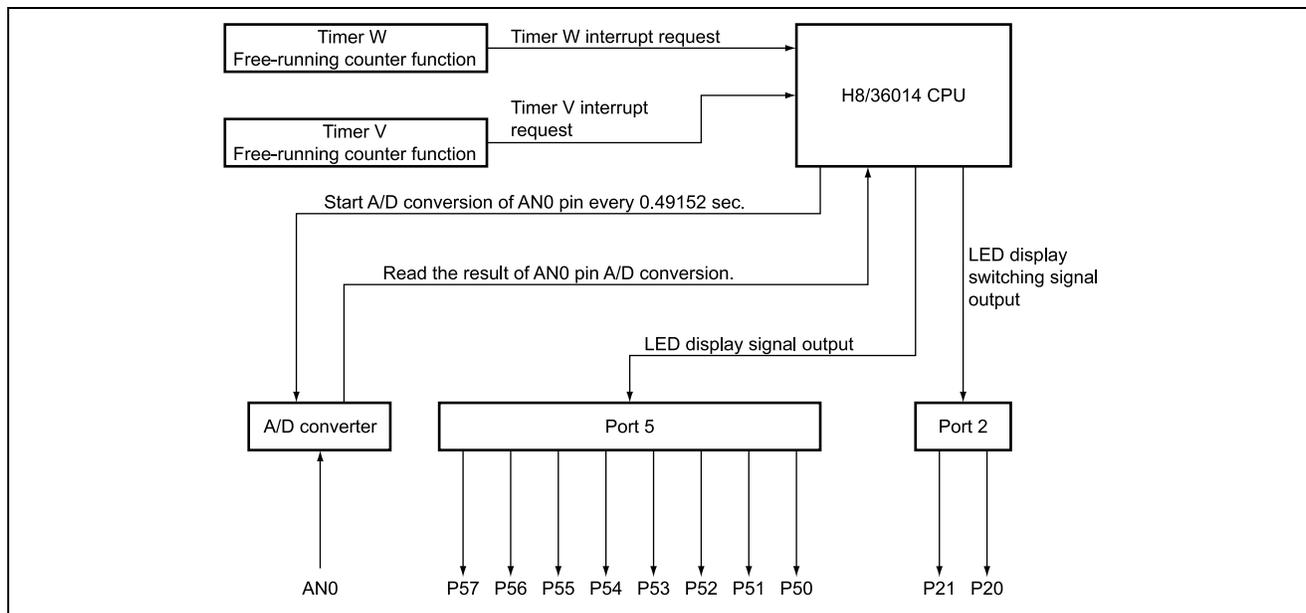

Figure 2.1 Block Diagram of Functions
1. Figure 2.1 is a block diagram of the H8/36014 functions used in this sample task; table 2.1 shows function allocations.